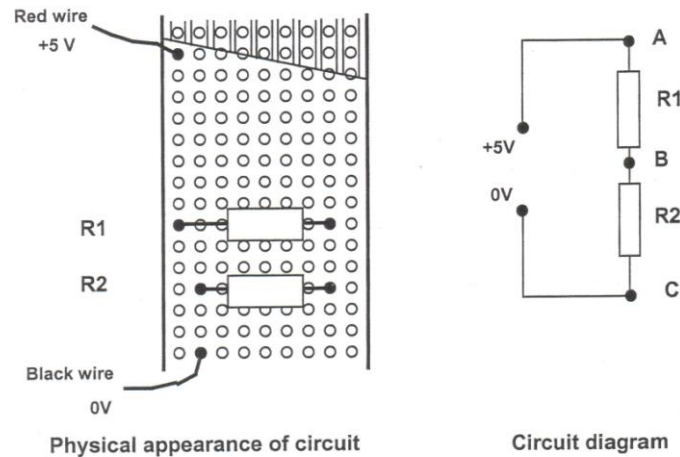

Figure 2.2: Schematic of the two resistors in series circuit.
2. Mount the resistors onto the stripboard as shown in Figure 2.2. Bend the resistor leads as necessary and insert them through suitable holes on the board. To hold the resistor in place while you are soldering, you may find that it is useful to bend the leads at the bottom of the board at an angle. Once you are sure that the component is properly placed, you can move on to the next step.
6. Solder two *flying leads* onto the board as shown in Figure 2.2. You now have a simple circuit of two resistors in series.
9. Set the output of the low voltage power supply to 5 V DC and, using the DMM to measure the voltage, connect it to the circuit as shown in Figure 2.2 and switch it on.